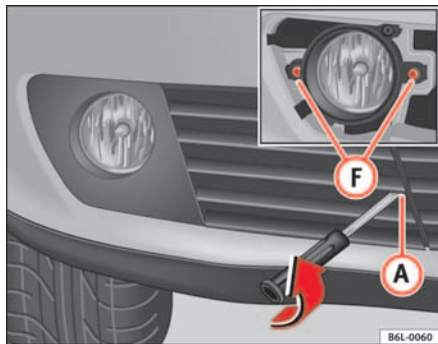

Fig. 150 Fog lights
- Undo the two fastening screws **F** ⇒ fig. 150 and when released unplug the connector.
- Remove the grille, taking out the screw **A** ⇒ fig. 150, carefully pull the grille on the side of the screw and release the cover.